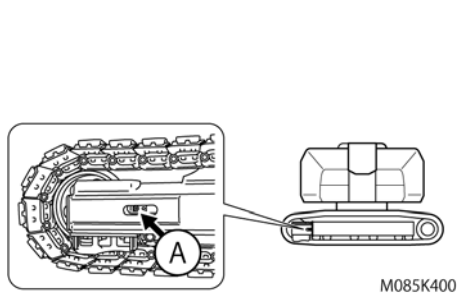

Fig. 2-4
4. Supply grease to the "Grease cylinder" through the "Grease fitting A" installed on the "Lubricator" shown in the Fig. 2-4 to apply more tension to the track.